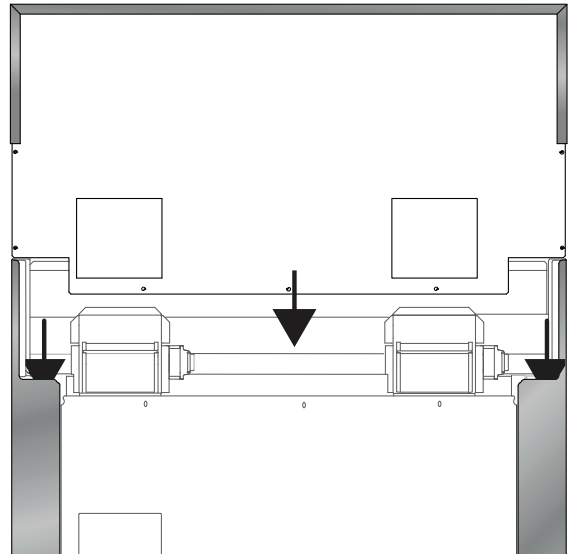

Figure 28: Backguard Installation
3. Align the back panel of the new accessory with the flanges on the range side panels right and left rear corners. The backguard is inserted inside the guide channels on the back of the range (*Figure 28*).